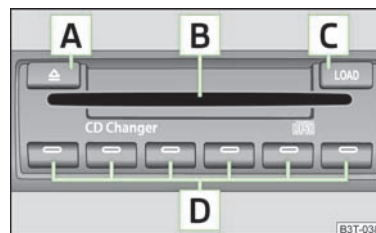

Fig. 109
- Touch the button **C** » Fig. 109 and guide the CD (compact disc) into the CD-case **B**. The CD is automatically loaded onto the lowest free position in the CD changer. The indicator light in the corresponding button **D** stops flashing. ➤
- Press and hold the button **[C]** » Fig. 109 for longer than 2 seconds and guide the CDs one after the other (maximum 6 CDs) into the CD case **[B]**. The indicator lights in the buttons **[D]** stop flashing.
- Press the button **[C]** » Fig. 109. The indicator lights in the buttons **[D]** illuminate the memory spaces that are already assigned and flash in the case of free memory spaces.
- Press the button **[A]** » Fig. 109 to eject a CD. For assigned memory spaces, the indicator lights now illuminate in the buttons **[D]**.
- Press and hold the button **[A]** » Fig. 109 for more than 2 seconds to eject the CDs. All CDs in the CD-changer are ejected consecutively.
- Always guide the CD into the CD case **[B]** » Fig. 109 with the printed side facing upwards.